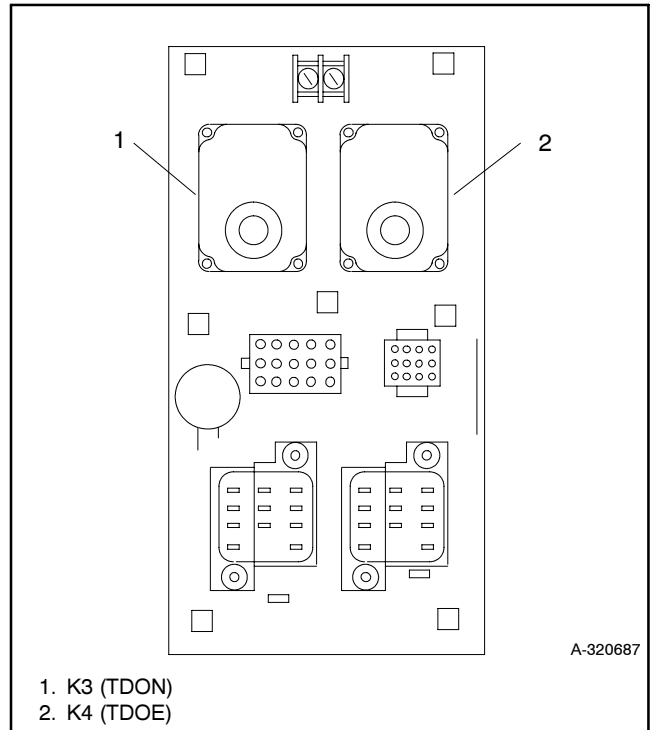

Figure 5-1 Interface Board with Programmed Transition Relays
3. Locate the appropriate relay on the interface board. See Figure 5-1.